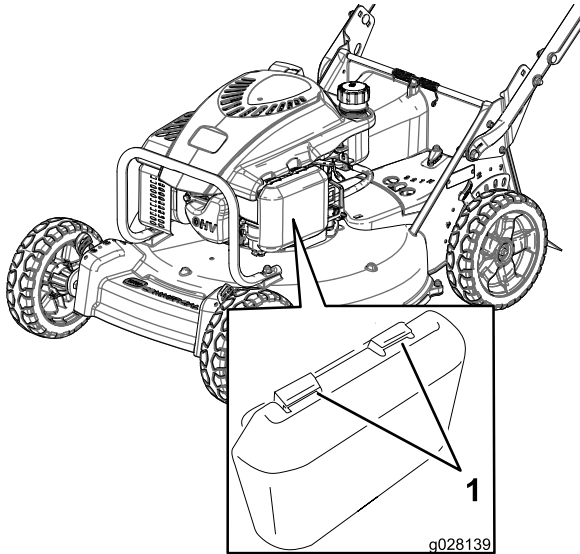

Figure 18
1. Press down on the latch tabs on top of the air cleaner cover (Figure 18).